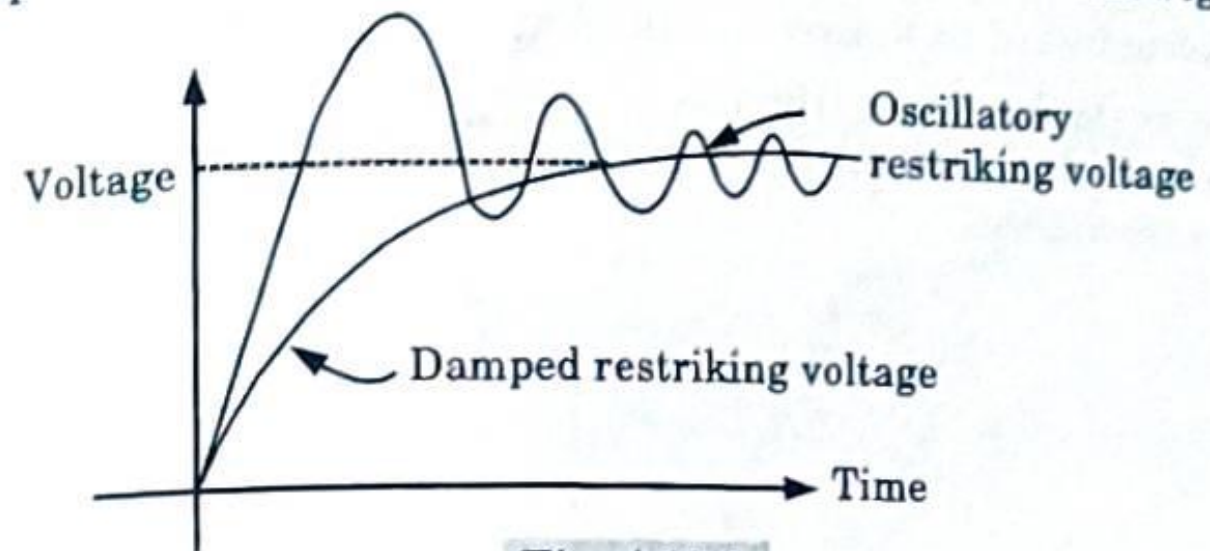

Fig. 4.13.2.
- The shunt resistance also ensures the effective damping of the high frequency restriking voltage transients. This is shown in the Fig. 4.13.2.